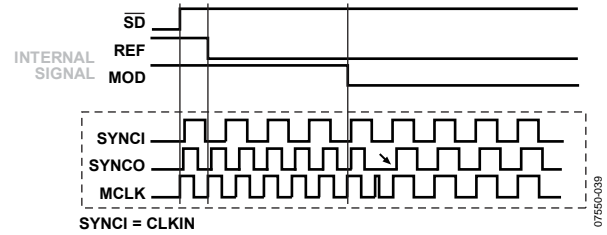

Figure 39. SYNCI = External Clock
- SYNCI = external clock. SYNCO is a buffered clock output sourced from an external clock signal. One clock cycle after the internal modulator detect signal is released, an irregular pulse appears on MCLK before the first buffered output signal begins on SYNCO, as shown in Figure 39.